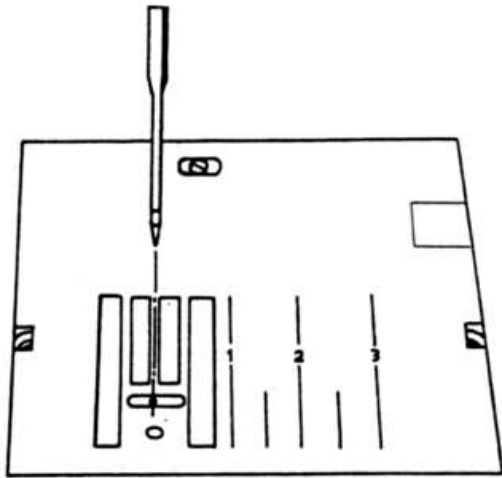
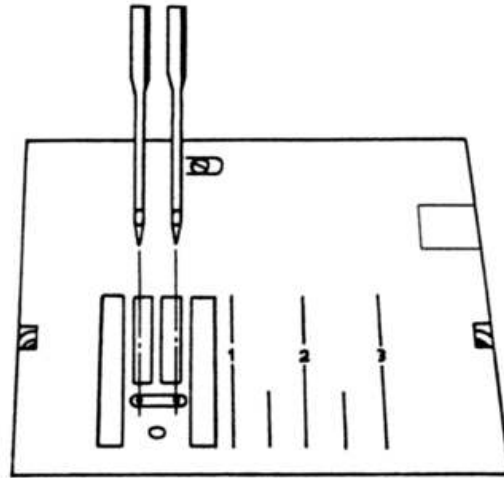

Fig. 9
Fig. 9a
At the straight stitch setting, the needle must be in the center of the needle hole (fig. 9). The widest zigzag stitches must be the same distance from the left and right needle hole edges (fig. 9a).
- Push the complete stepping motor 38 to the left or to the right until the needle is centered (fig. 9).